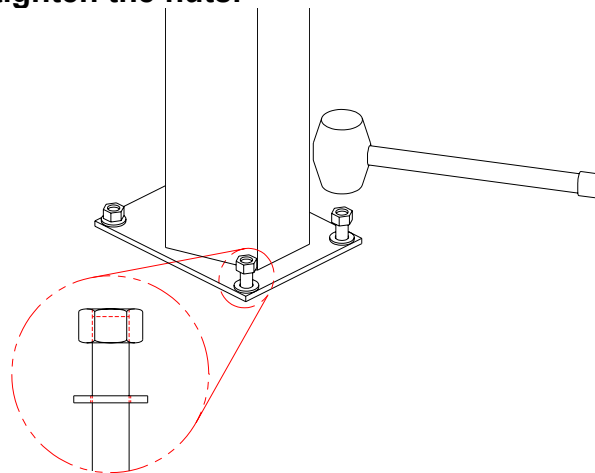

Figure 4
- Assemble the washers and nuts onto the anchor bolts. Thread the nuts onto the anchor bolts where the tops of the nuts are just above the top of the bolts, figure 4. Using a hammer, carefully tap the anchor bolts into the concrete until the washer rests against the baseplate. Do not damage the nuts or threads. **Do not tighten the nuts.**